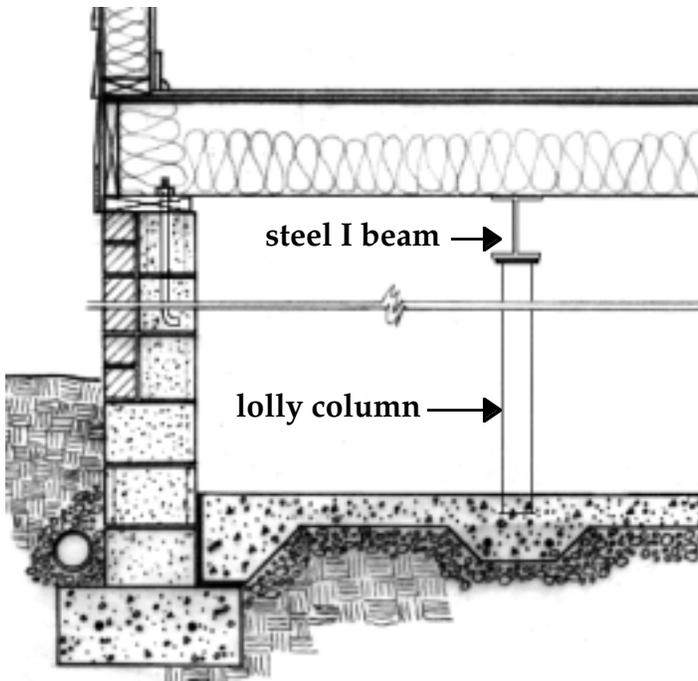

figure 3, lolly column & steel I beam
**Lolly columns** are vertical steel posts that support the beams called for in your plans. (figure 3,4, & 5) The plans will show the size and location of these lolly columns which will sit on concrete pads. The concrete pads will be put in place during the “Footings” phase of construction (activities 20-22).